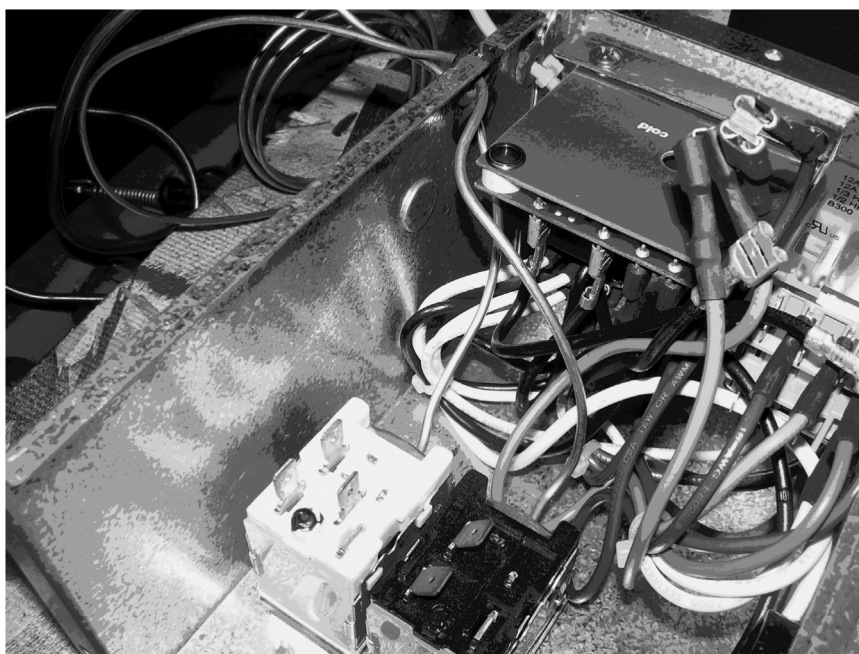
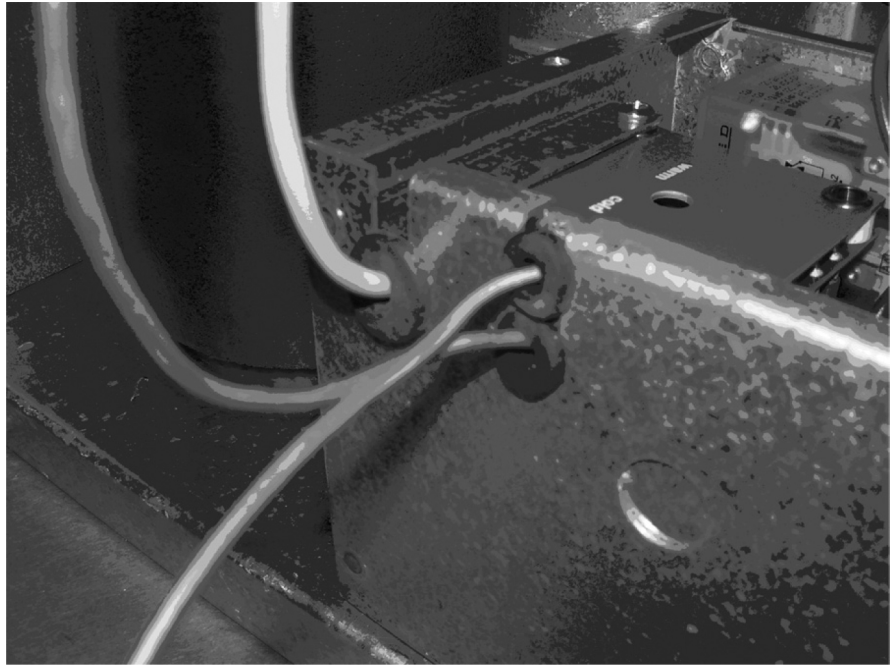

Figure 1.
Figure 2.
7. Mount the auger control switch in the left set of holes and the new bin control in the right set of holes using 8-32 screws supplied in the kit. Route the capillary tube of the new bin stat into the slot with the capillary tube of the auger control. Slide the rubber grommet into the slot. See Figure 1 and Figure 2.